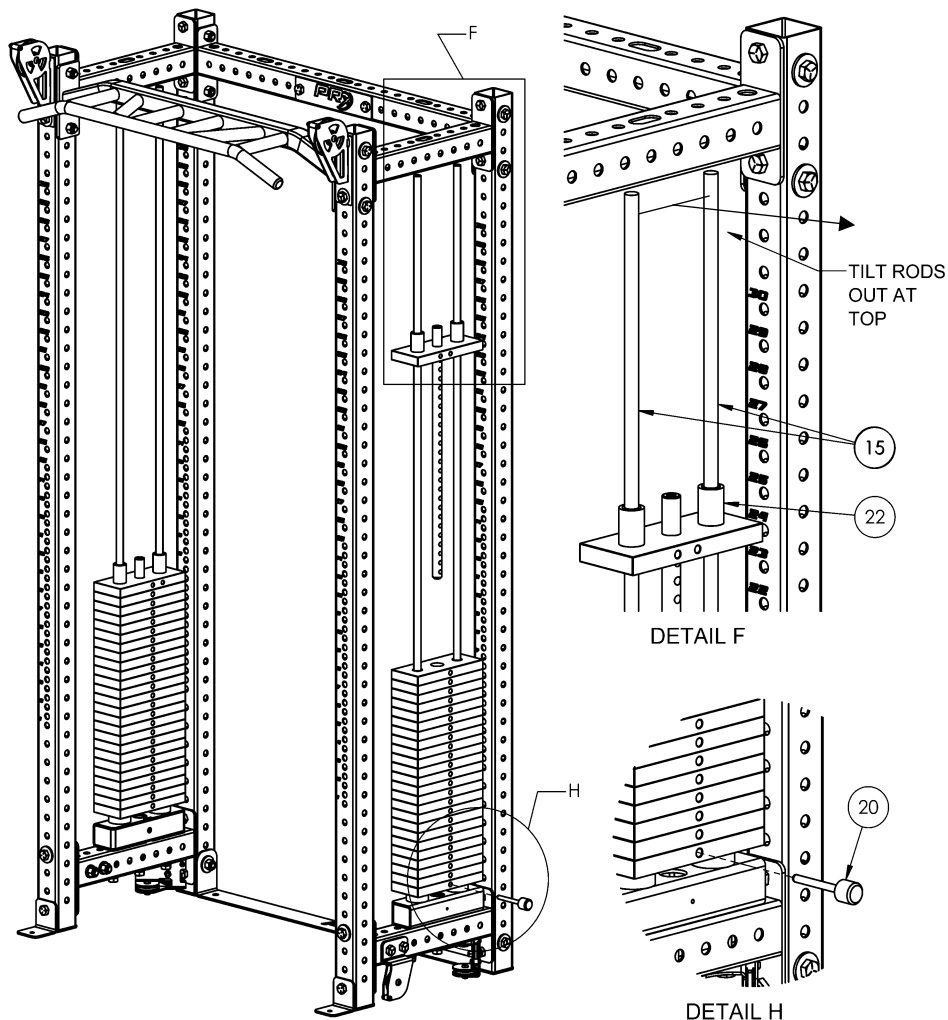

Figure 5
1. Carefully tilt the top of the Guide Rods (15) out, away from the rack and slide the Head Plate Assembly (22) on them. **Figure 5, Detail F**
2. Once the Head Plate (22) is installed, insert the Weight Plate Mag Pin (20) into the stack. **Figure 5, Detail H**